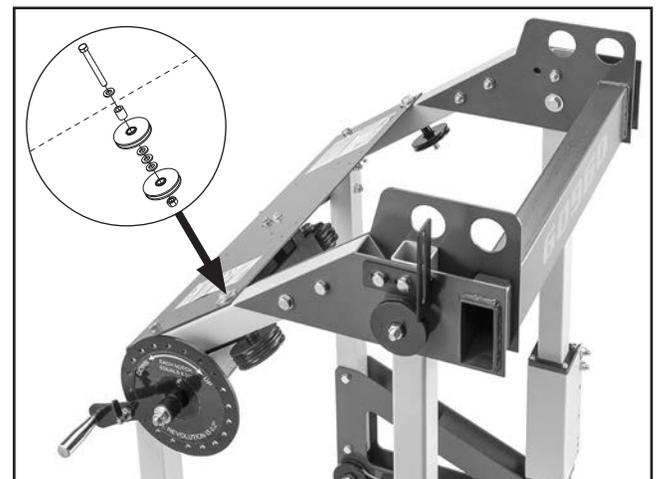

Figure 34. Stationary cable pulleys installed on lift assembly.
33. Attach lift assembly to rear left post with hex bolt, spacer, flat washers, cable pulleys, and hex nut removed in **Step 30** (see **Figure 34**).